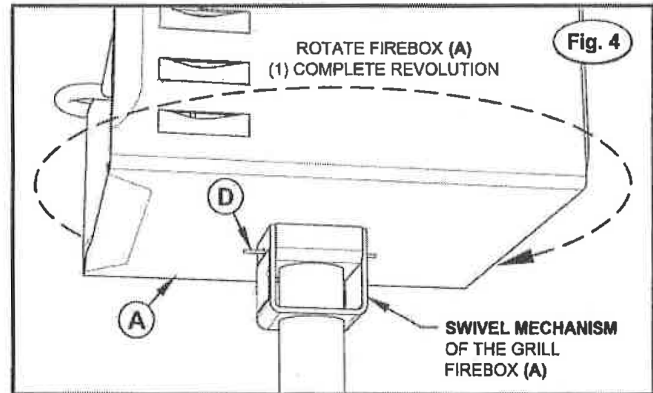

Fig. 4
To lock the Grill (A) on the Post Base line up the (2) 5/16" dia. Holes on the front and back of the Grill Swivel Mechanism with the (2) 5/16" dia. Holes at the top of the Post Base. Insert the included 5" Locking Pin (D) through the aligned holes leaving an **equal length** of Pin protruding from each side of the Swivel Mechanism (see Fig. 4).
Rotate the Grill (A) one complete revolution. The Locking Pin (D) will be bent and drawn into the Swivel Mechanism to lock the Grill onto the Post Base (see Fig. 4).